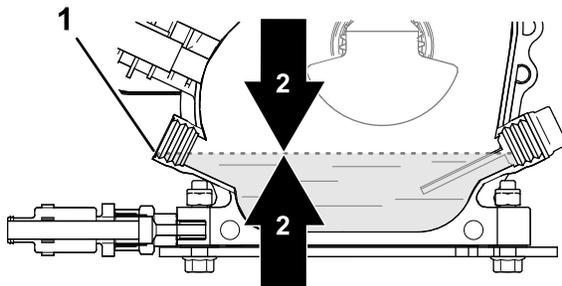

Figure 43
3. Check the oil level (Figure 43).